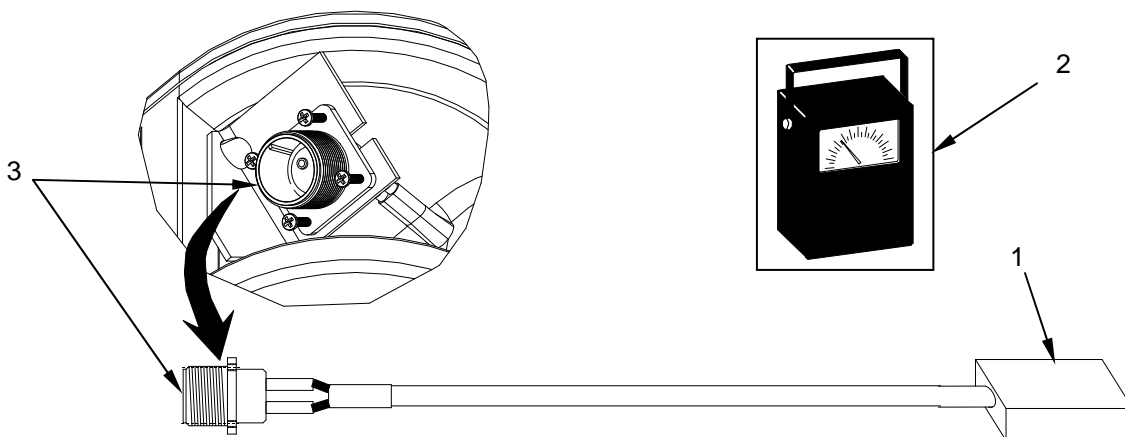

Figure 1. Test the Electrical Connector Assembly.
1. Disconnect the connector assembly plug (Figure 1, Item 1) from its interface connection.
2. Using a multimeter (Figure 1, Item 2), test the leads for continuity between the plug (Figure 1, Item 1) and the terminals in the receptacle plug (Figure 1, Item 3).
4. Reconnect the connector assembly plug (Figure 1, Item 1) to its interface connection.